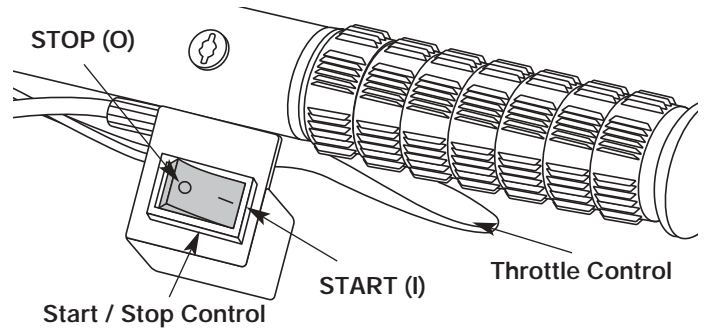
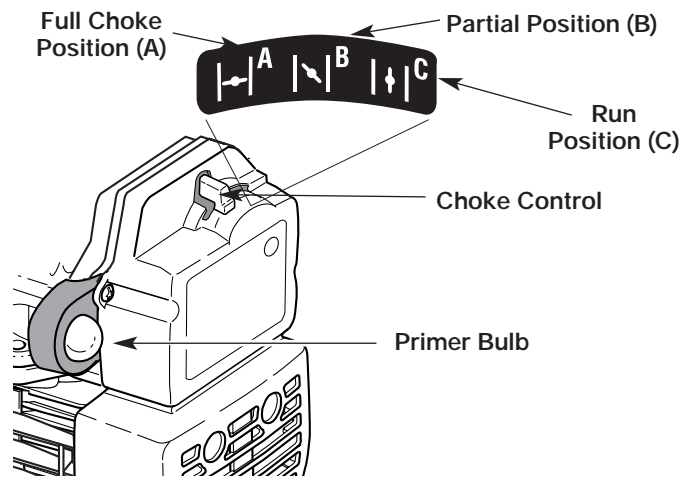

Fig. 6
Fig. 7
2. Put the Start/Stop Control in the **START (I)** position (Fig. 6).
3. Fully press and release the primer bulb 10 times, slowly, until **FUEL IS VISIBLE IN THE PRIMER BULB** (Fig. 7). If you can't see fuel in the bulb, press and release the bulb as many times as it takes before you can see fuel in it.
4. Place the choke lever in the **FULL** choke position (A ) (Fig. 7).
7. Place the choke lever in the **PARTIAL** choke position (B ) (Fig. 7).
**NOTE:** If the engine floods while trying to start, place the choke lever in the **RUN** position (C ) (Fig. 7). Squeeze the throttle control. Pull the starter rope briskly. The engine should start within three (3) to eight (8) pulls.
10. Squeeze the throttle control to warm up engine for 5 to 10 seconds. Place the choke lever in the **RUN** position (C ) (Fig. 7).
**NOTE:** Choking is unnecessary when starting a warm engine. Put the On/Off Stop Control in the **START (I)** position (Fig. 6), and start in **PARTIAL** choke position (B ) (Fig. 7).
2. Put the On/Off Stop Control in the **STOP (O)** position (Fig. 6).